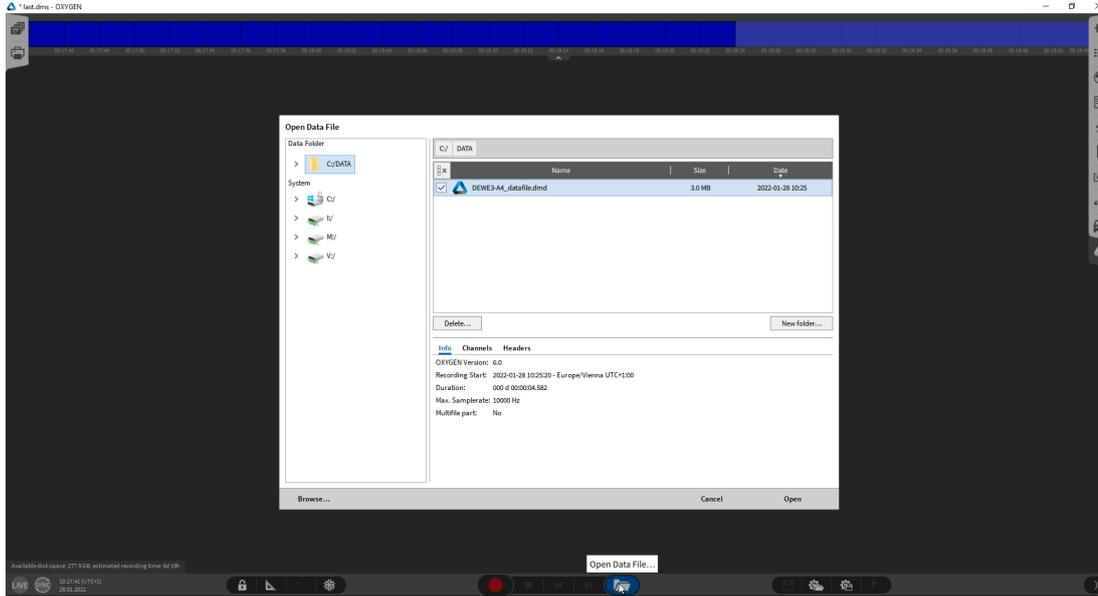

Fig. 35: Opening data file
1. Click on the file button, and select the corresponding file (see Fig. 35).